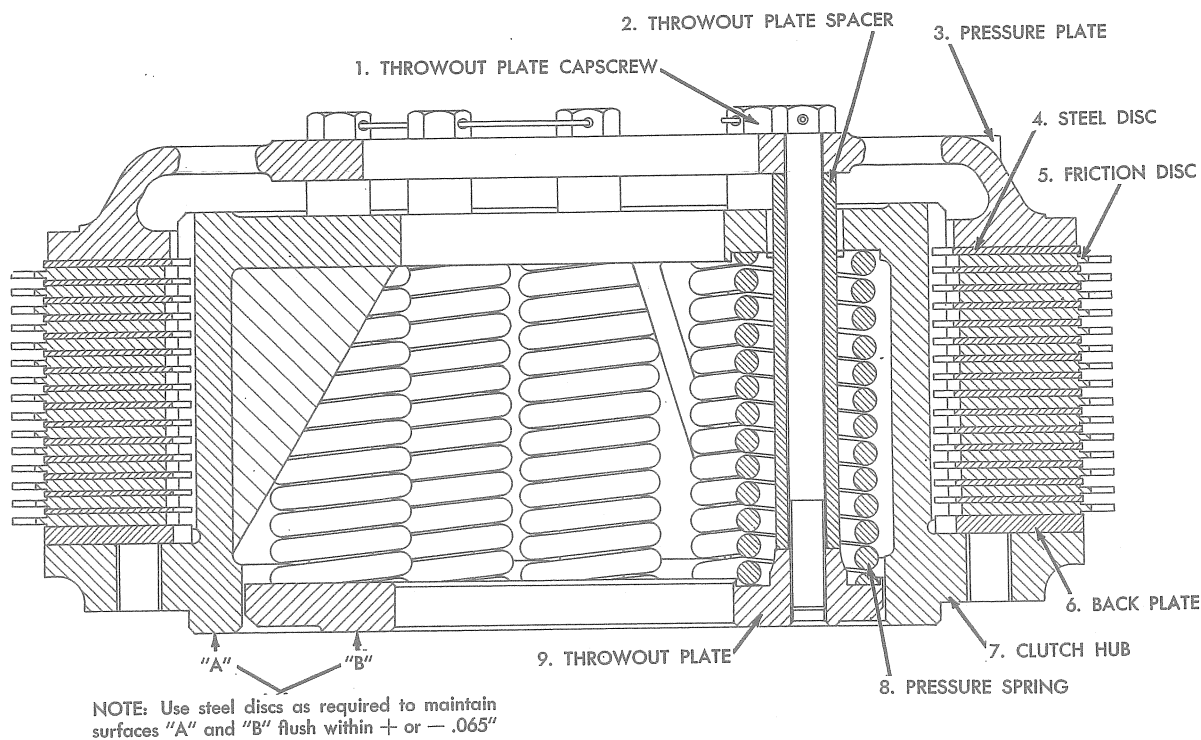

Fig. 10 — Steering Clutch Assembly
When assembling the clutch, refer to Fig. 10 showing the components in their relative positions.
2. Beginning with a friction disc installed next to the clutch back plate, stack 15 friction discs and 15 steel discs alternately on the clutch hub as shown in Fig. 10.